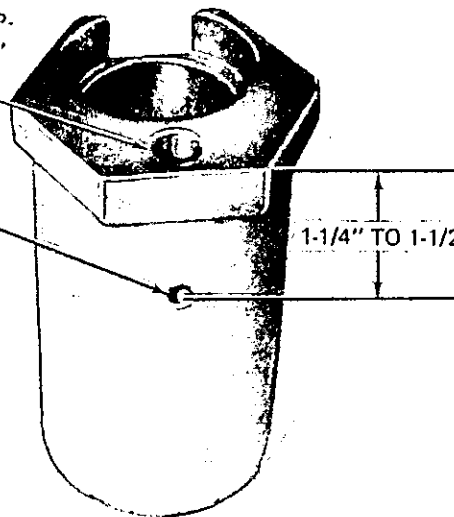
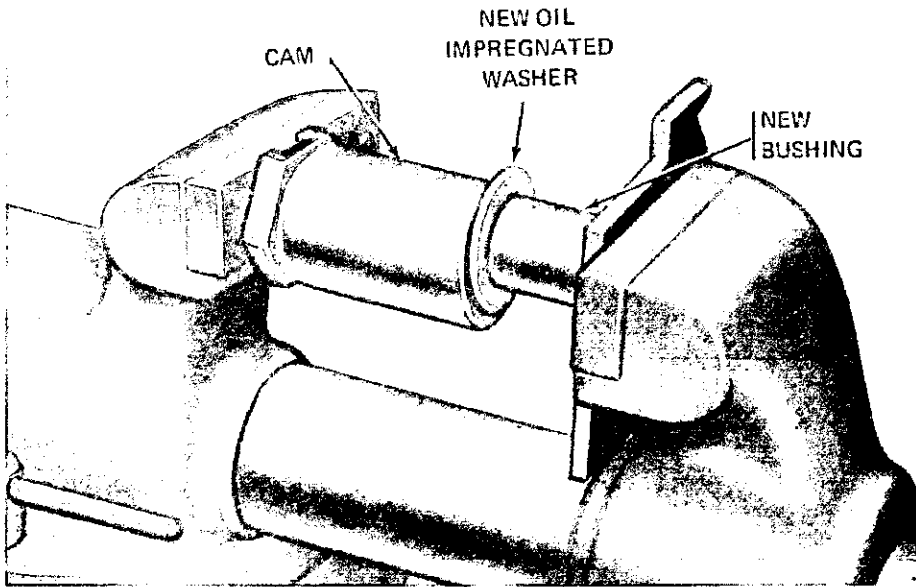
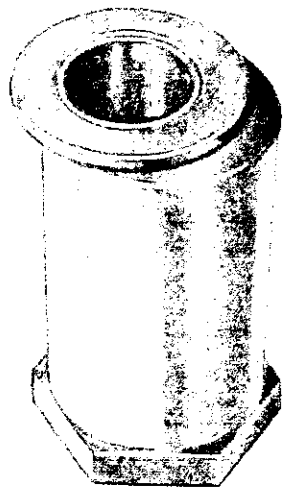

Figure 6. Drilling Cam.
Figure 7. Pressing New Bushing into Cam.
Figure 8. End of Bushing Flush with Washer.
<p>12. Clean spindle and cam in dry cleaning solvent, then remove rust or burrs with crocus cloth and wire brush. Be sure you clean all surfaces of the cam, especially the bushing bore. Wash it off again in solvent.</p> <p>13. Inspect spindle-to-suspension arm weld for cracks. If you find a crack, do not attempt to reweld it. Order a replacement arm and spindle assembly #5100066-W01 from FMC/MCD.</p> <p>14. Place cam in vice with outboard (hex) end up. Punch mark at dead center of hex. Using a 3/16 drill bit, drill a hole approximately 1-1/4 to 1-1/2 inch deep. Then drill a hole through the side of the cam (same size), to intersect the first hole and into the bushing bore (figure 6).</p> <p>15. Counterbore hole in outboard (hex) end of cam using a 3/8 drill bit. The counterbore should be at least 3/8 inch deep. Clean out both holes.</p> <p>16. Position oiler to cam, place cam in vise, and press oiler into counterbored hole.</p> <p>17. Chamfer inboard end of cam bore. Slide new oil impregnated washer (large), over new bushing, and position cam and bushing in vise. Take care to protect oiler. Press bushing into cam (figure 7). End of bushing must be flush with face of oil impregnated washer (figure 8).</p> <p>18. Place suspension arm in vise. Soak new felt packing in 140 weight gear oil. Assemble cam on spindle as follows (figure 9):</p> <ol style="list-style-type: none"> <li>a. New Steel thrust washer (large).</li> <li>b. Retained teflon coated bushing washer (with small hole).</li> <li>c. New oil impregnated washer (large).</li> <li>d. Cam with new bushing and oiler.</li> <li>e. New oil-soaked felt packing.</li> <li>f. New oil impregnated washer (small).</li> <li>g. New steel washer (small).</li> <li>h. Retained slotted nut (finger tight).</li> </ol>	<p>SUBJECT  Upper Suspension  Arm</p> <p>MODEL (S) AFFECTED  Coaches 00001  to 00645.</p>